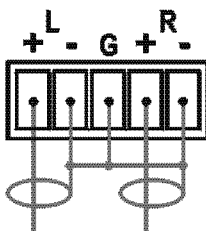

Figure 4: Connecting the Unbalanced Stereo Audio Output
- An unbalanced stereo audio connection, see Figure 4